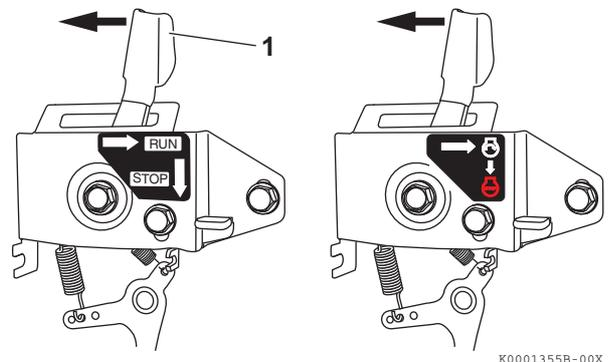

Figure 16
2. If your engine speed control is similar to **Figure 16** slide the engine speed control lever (**Figure 16, (1)**) in the direction shown to adjust the engine speed.